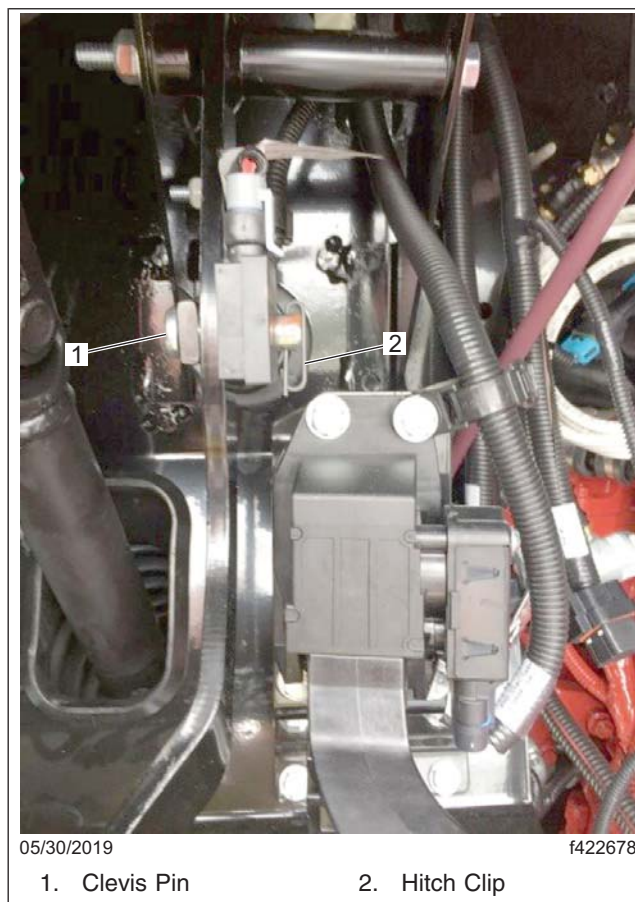

Fig. 2, Reorientation of the Clevis Pin and Hitch Clip
3. Install the clevis pin on the left side of the brake pedal. See Fig. 2.
4. Install the hitch clip on the clevis pin. See Fig. 2.